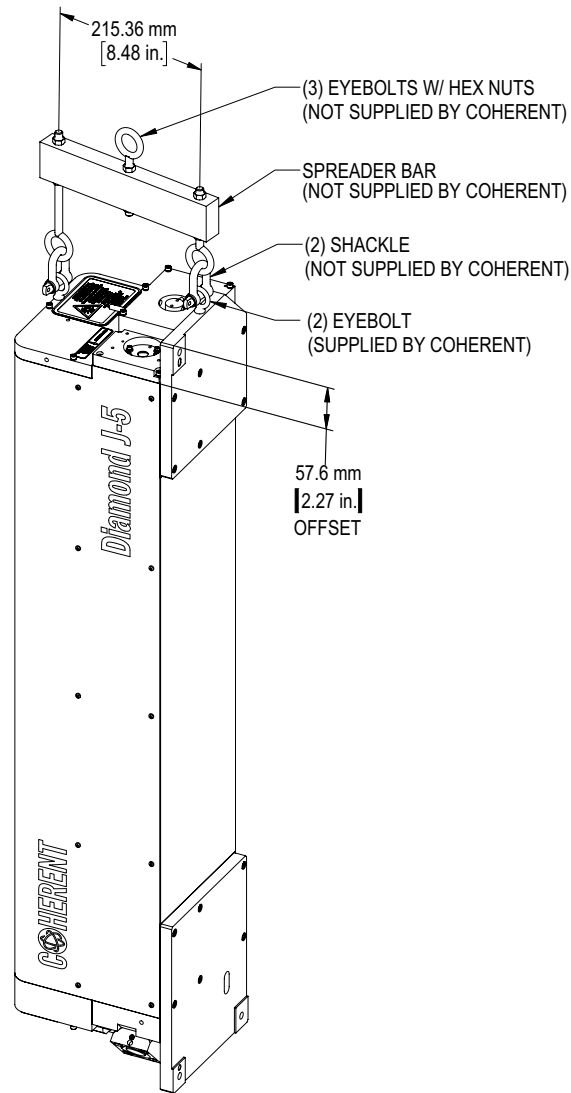

Figure 4-15. Vertical Mounting Illustration
1. Install eyebolts into screw holes. See Figure 4-14 for screw hole locations. Do NOT use the top eyebolt locations during vertical lift (refer to Figure 4-15 on page 71).
2. Securely connect appropriate slings or chains to the eyebolts and a user-supplied spreader bar. Chains/slings must be vertical when under load. See Figure 4-15.
3. Carefully lift the laser system while preventing the free end from moving around. See Figure 4-15.